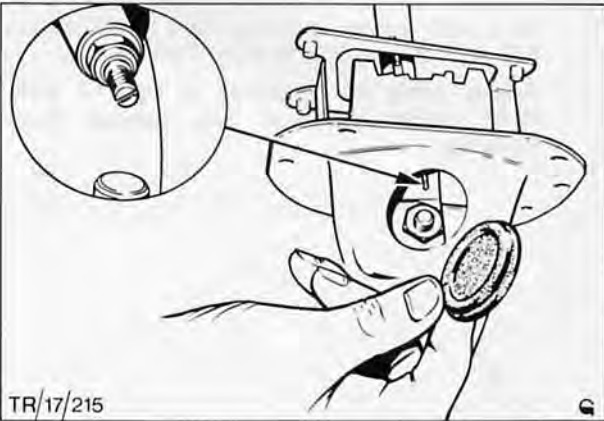

Fig. 6. Remove grommet from selector lever housing (insert shows locknut on operating cable)
1. Remove rubber grommet from lower end of selector lever housing, Fig. 6. Unscrew nut, press lever arm out of housing. Remove bushes from housing.
- NOTE: To make necessary adjustments to the operating cable, the rubber grommet has to be removed from the selector lever housing, see Fig. 6.